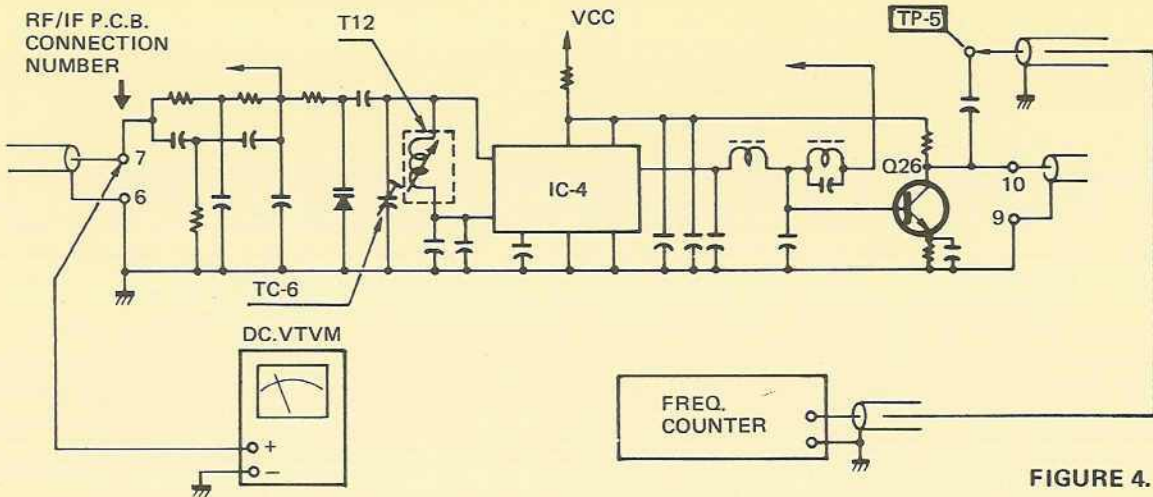

FIGURE 4.
Step 1: Connect a DC VTVM and a Frequency Counter as shown in Figure 4.